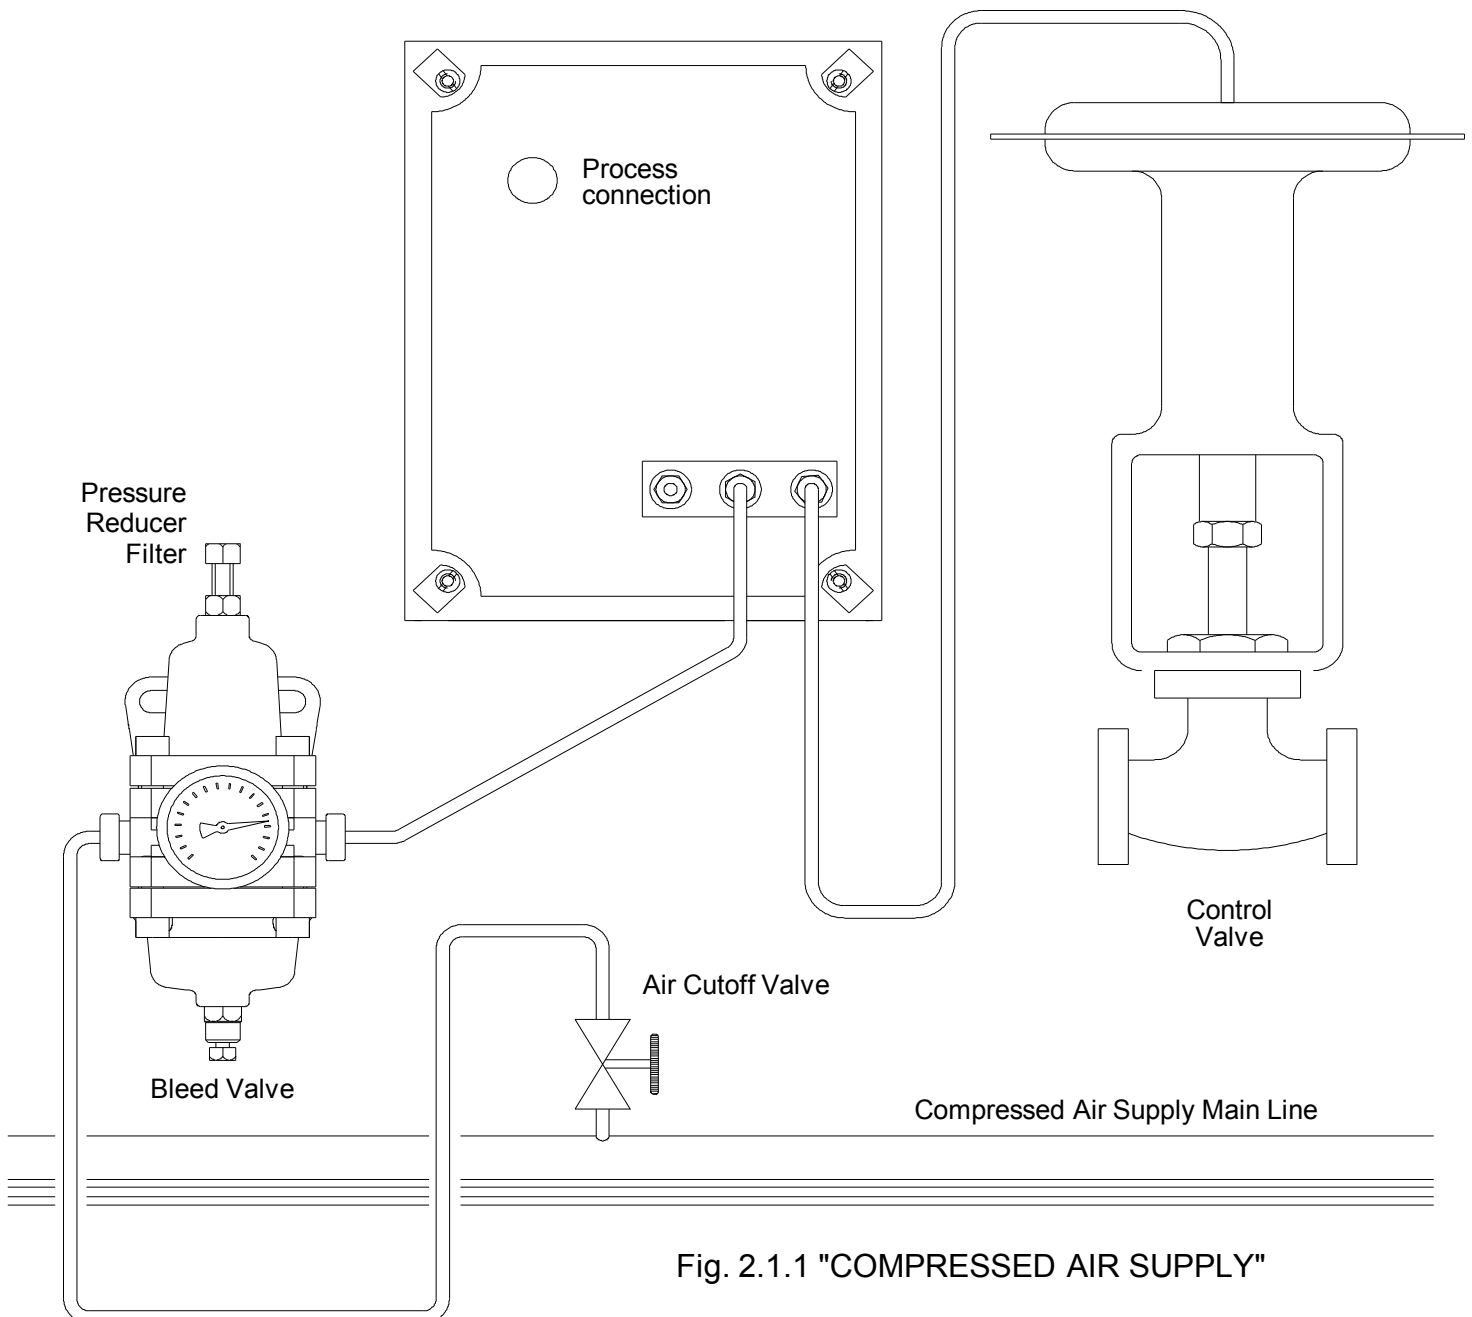

Fig. 2.1.1 "COMPRESSED AIR SUPPLY"
2.1. COMPRESSED AIR SUPPLY (Fig. 2.1.1)
A - Apply a 20 psi air supply (± 1.5) and open the bleed valve of the pressure reducer filter (see Fig. 2.1.1) until any condensate has been completely discharged.
B - Apply a 20 psi air supply (± 1.5) and open the bleed valve of the pressure reducer filter (see Fig. 2.1.1) until any condensate has been completely discharged.